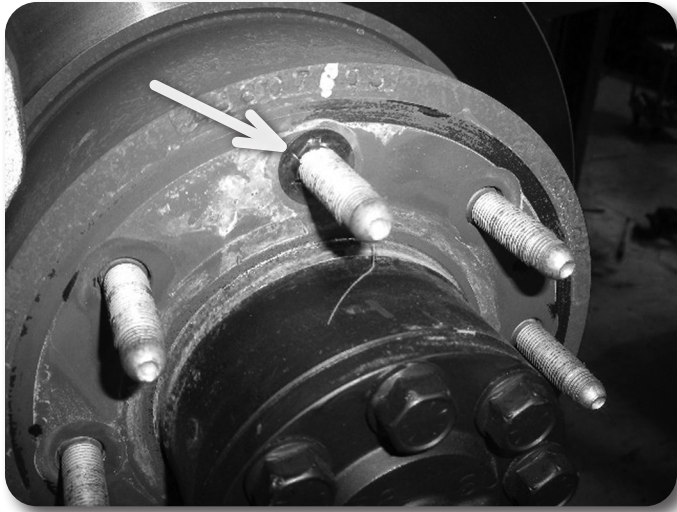

Figure 16
17. Remove clips on wheels Figure 16. Reinstall wheels and lower vehicle to the ground. Torque u-bolts to 150 ft-lbs. Torque lug nuts to 140 ft-lbs.